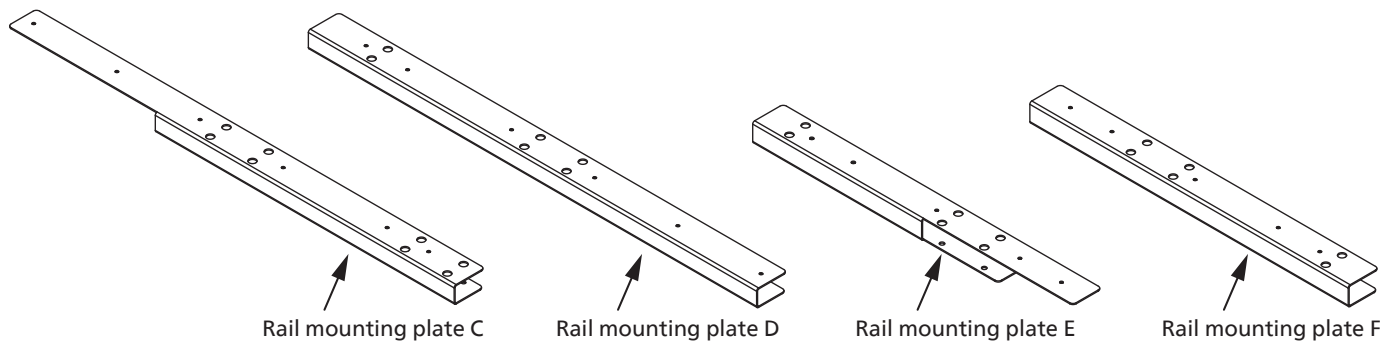

Figure 6 Diagram of rail mounting plate
- Install the rail mounting plate and the slide rails. Note that there are four sets of rail mounting plate, as shown in Figure 6 and Figure 7.